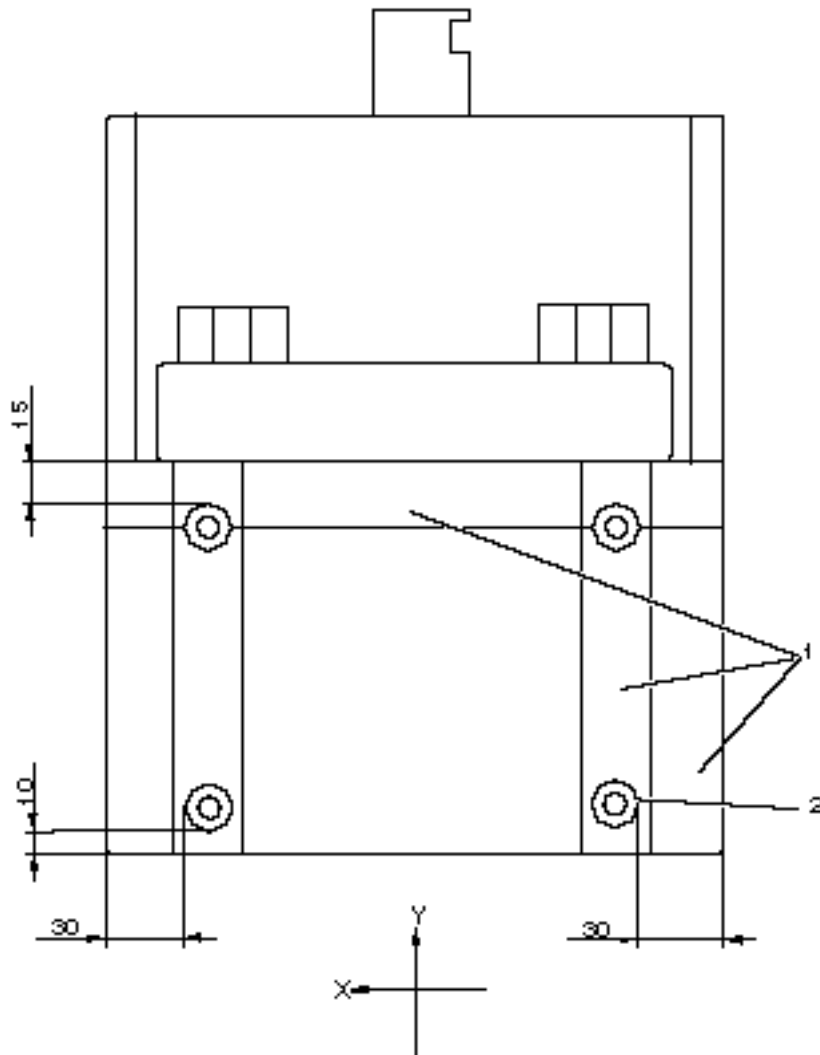
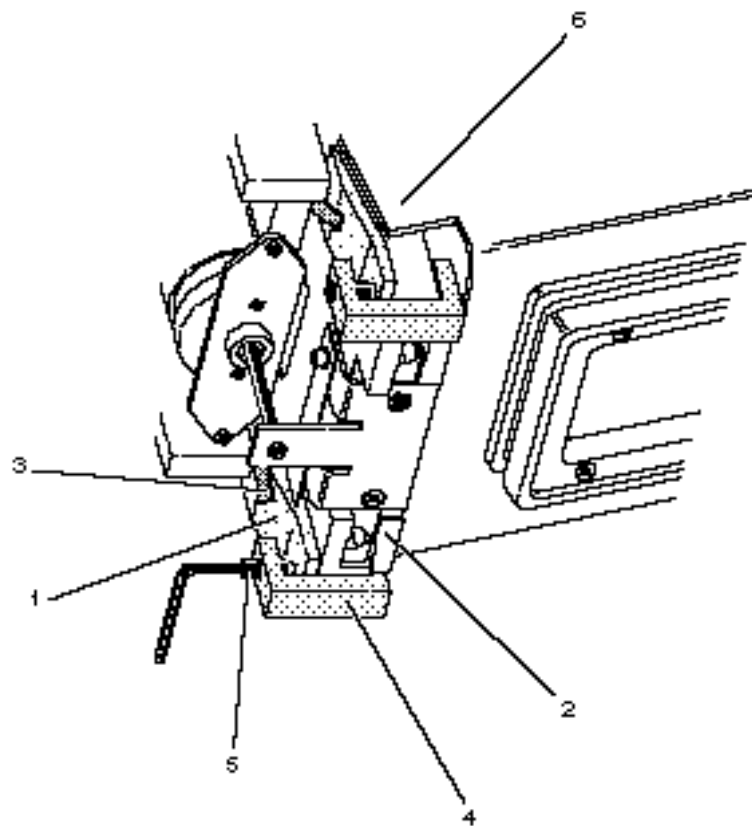

Figure 2 Object table
Figure 3 Installation of measuring tools
- 1 Attach tape (1) along the object table sides.
- 2 Position and attach 4 washers (2) with glue on the tape as shown in *Figure 2*.
- 1 Adjust the collimator for desired position, see *Figure 2* and *Figure 3*, by loosening the four Allen screws and carefully displacing it. Check against free space X-axis and Y-axis.